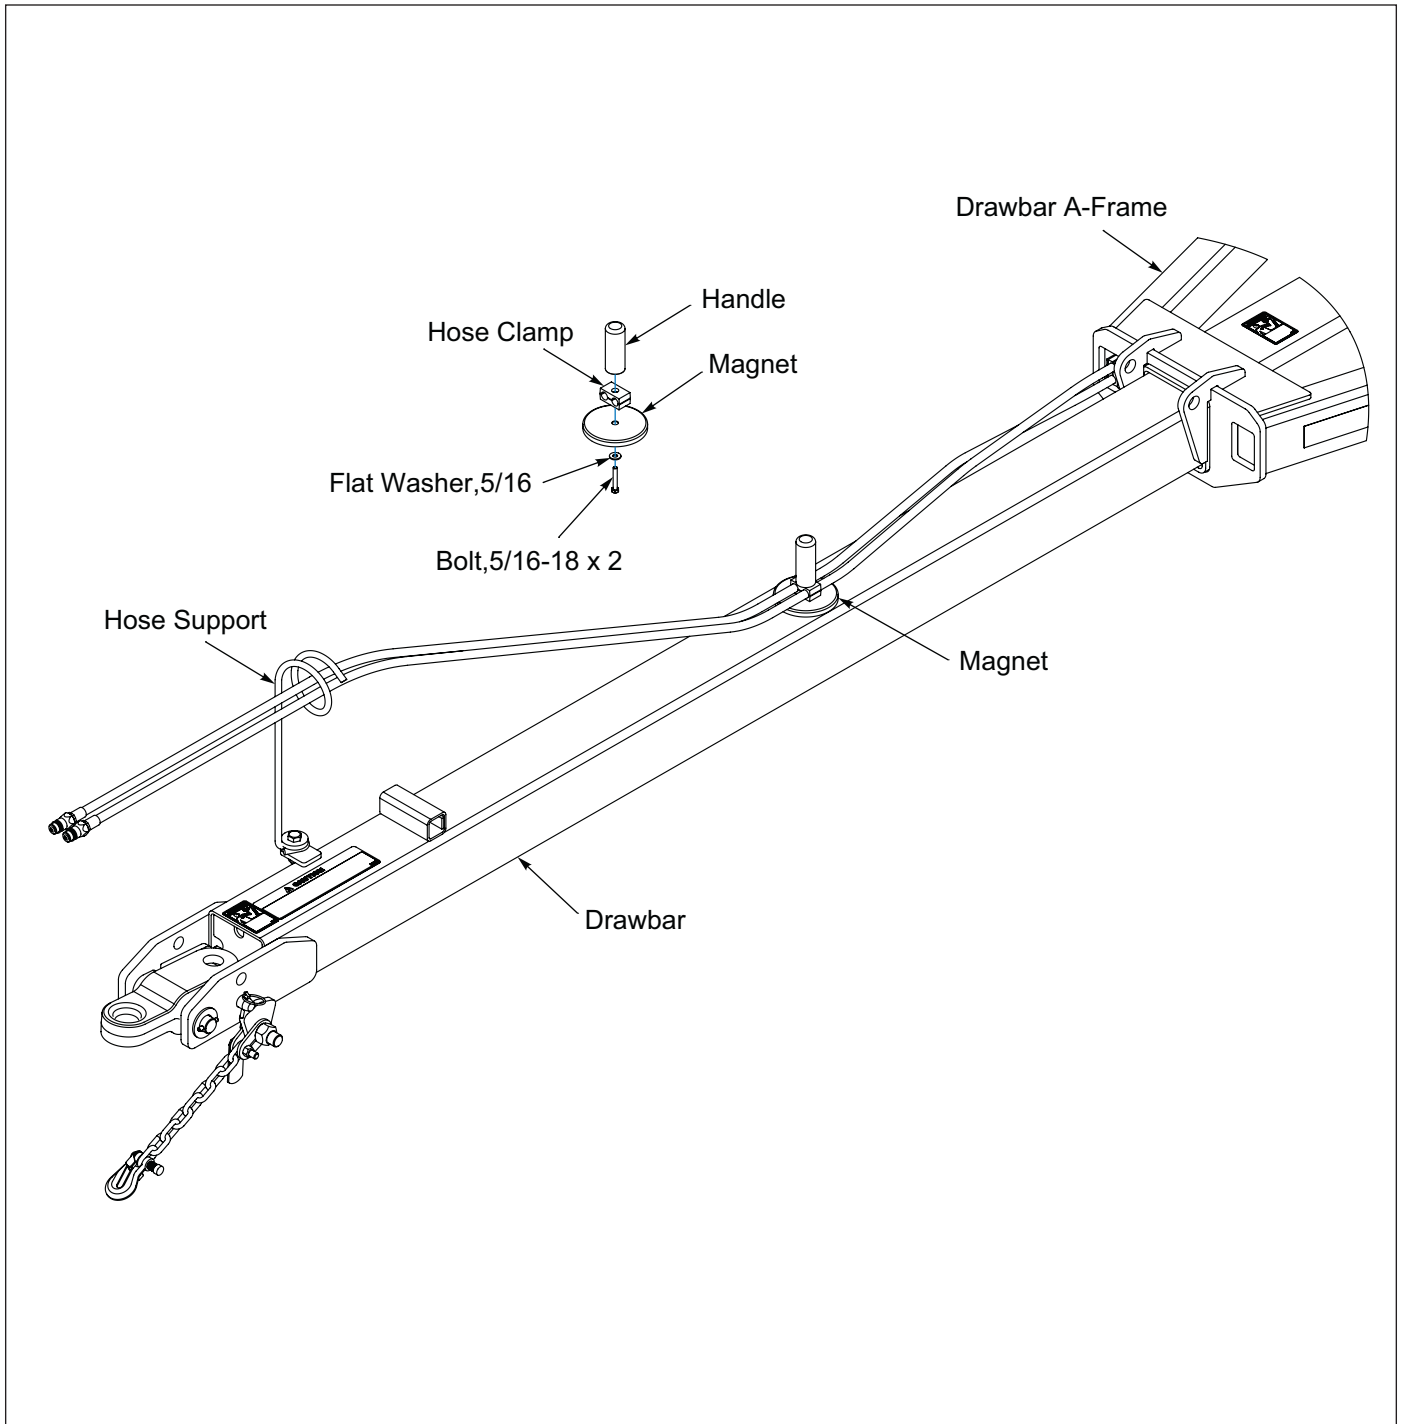

Figure 2-13: Telescoping Drawbar Magnet Hose Holder
10. Telescoping Drawbars: Assemble the Magnet, Hose Clamp, Handle and Hardware to the Drawbar Hoses halfway between the Drawbar A-Frame and Hose Support. **See Figure 2-13.**